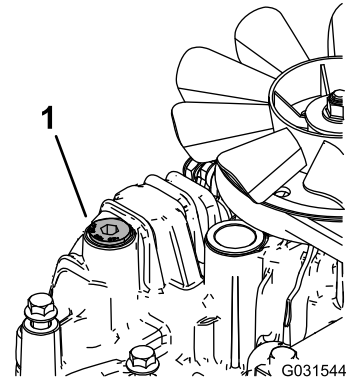

Figure 73
11. Loosen the vent plug in each transmission so that it is loose and wobbles (Figure 73).